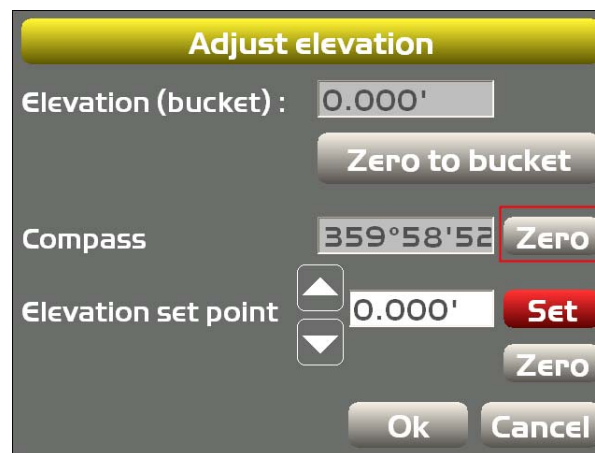

Figure 63: Adjust the Compass Calibration
- Tap **Zero** for the **Compass**, and then rotate the compass, for example, 90 degrees (Figure 63).
3. Curl only the bucket in and out in various positions, and measure the distance from the string line to the bucket teeth with a measuring tape (Figure 63).